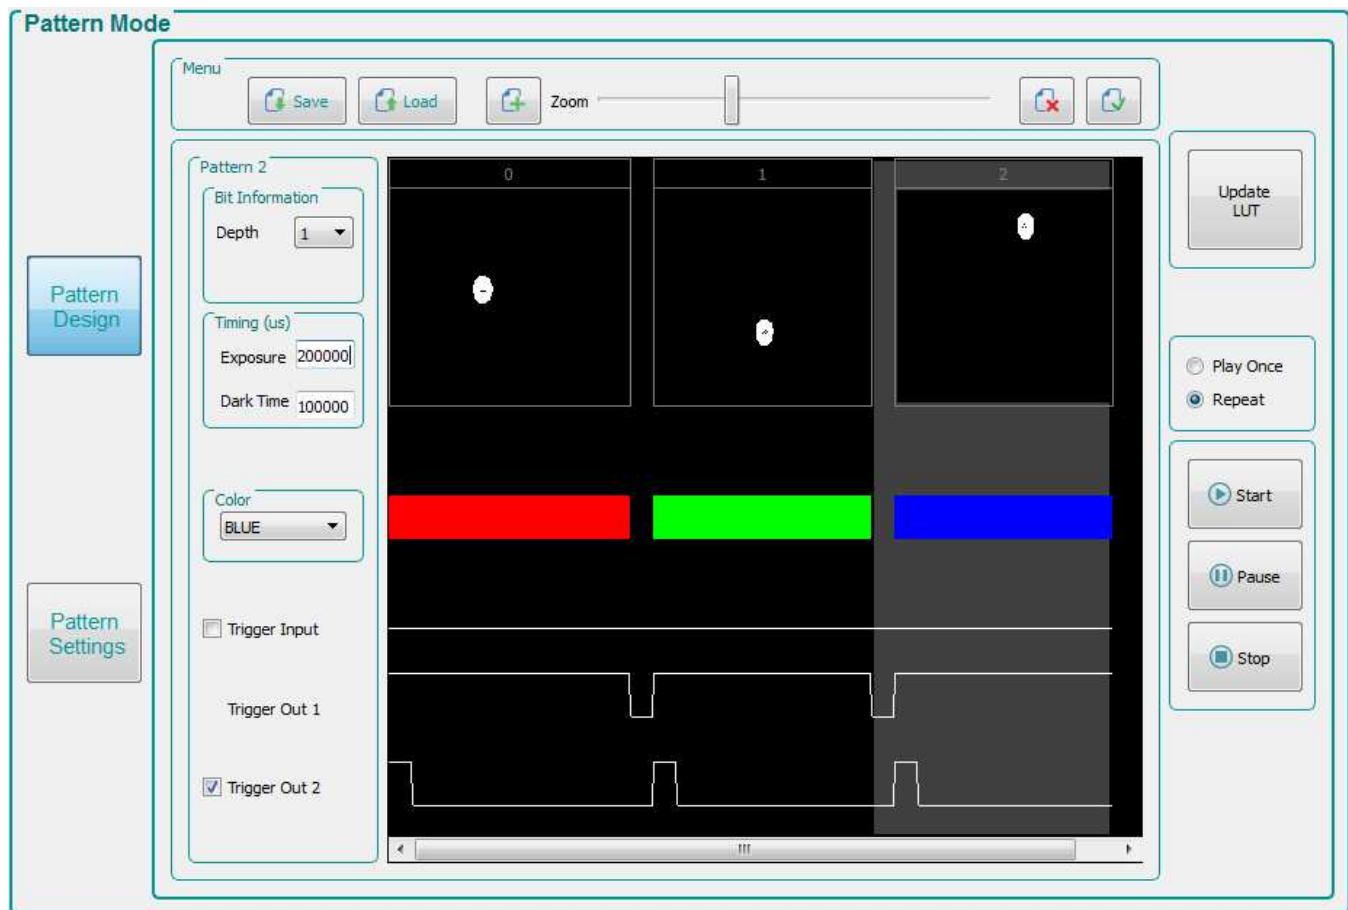

Figure 3-8. Three Pattern Sequence
7. Select the third pattern and choose a bit depth of 1. Set exposure to 200000 μ s and set dark time to 100000 μ s, and select **Blue** as the color. Figure 3-8 shows the pattern sequence. The *Zoom* bar can be used to zoom in and out. This is useful when many patterns are loaded into the panel.